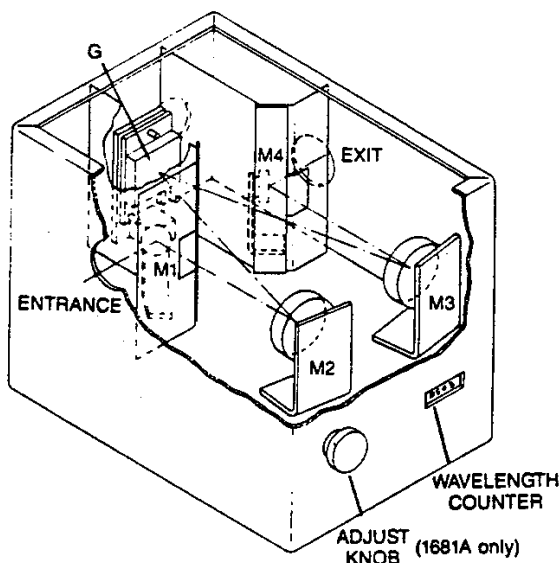

Figure 1
The 1681 MINIMATE-2, the 340E and the 340S are compact, general-purpose monochromators/spectrometers that can deliver high purity radiation without sacrificing throughput. As shown in the optical diagram (Figure 1), incoming light focused onto the entrance slit is directed by a 45° mirror (M1) to a collimating mirror (M2). From here, light is dispersed by the grating (G) onto mirror M3. Since the grating sorts light according to wavelength depending on the grating angle, only a narrow, specific band of light will be directed out the exit slit by the last mirror (M4). The narrowness of that bandpass is determined by the slit width.